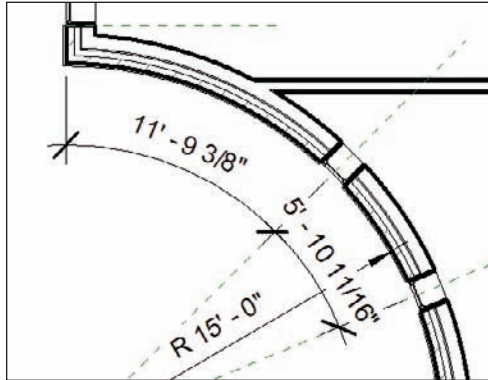

FIGURE 5.24 Adding a second Arc Length dimension
5. Pick a point to place the dimension (see Figure 5.24.).